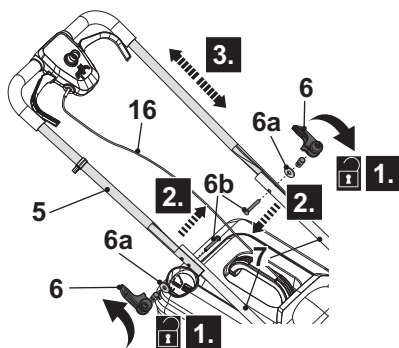

Fig 11
1. Hold the upper handle bar (5) with one hand.
2. Release the clamp levers (6) anti-clockwise (Fig. 11, step 1) on both side of the upper handle bar (5), then take off the clamp lever (6), the washer (6a) and the mounting bolt (6b) afterwards (Fig. 11, step 2).
3. Choose and align the other mounting hole on the upper handle bar (5) with the mounting hole of the lower handle bars (7) (Fig. 11, step 3).